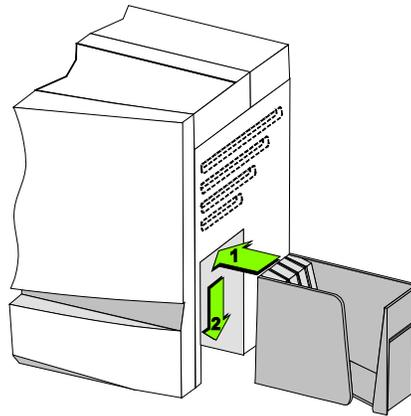

Figure 7-2: Place the card output stacker on the printer
- 10 Place the card output stacker on the right end of the printer (Figure 7-2). The card output stacker hooks into the printer.